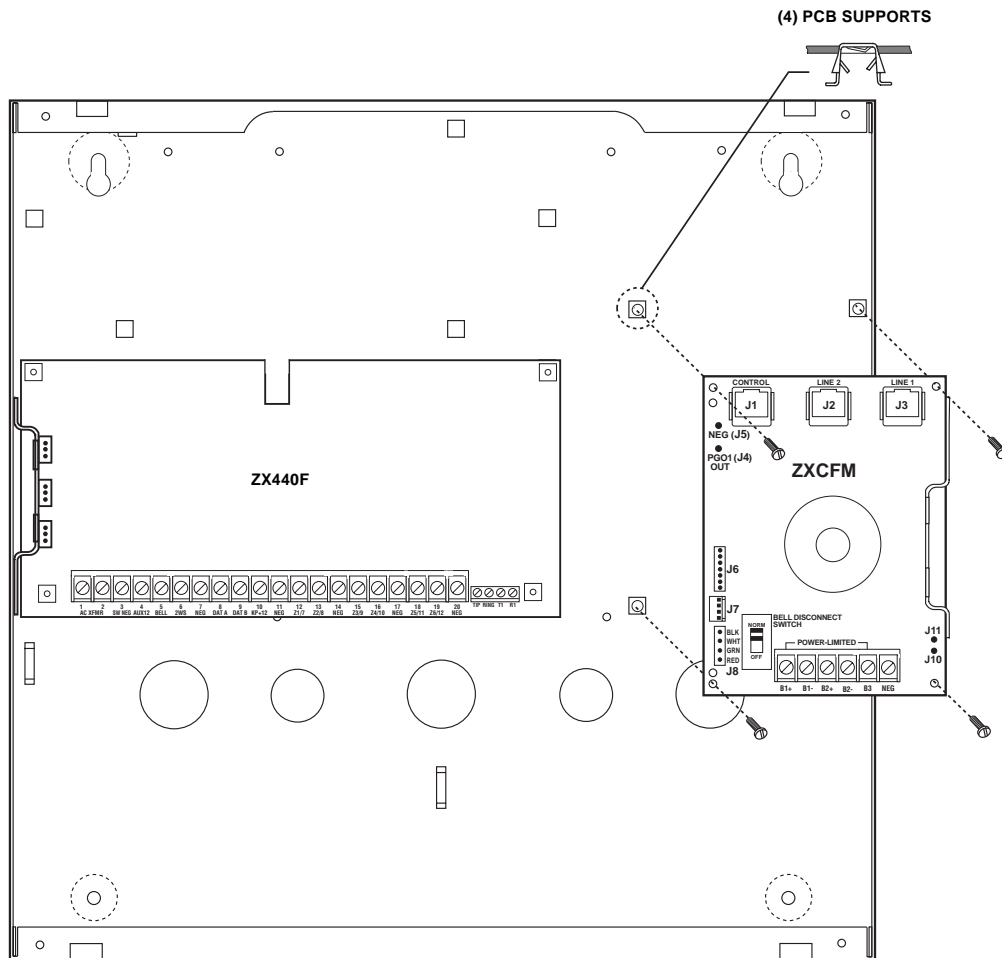

FIGURE 18 Installing the ZXCFM Fire Module to the ZX410 enclosure
3. Locate the (4) ZXCFCM PCB Supports in the hardware pack.
4. Press the supports into the enclosure, either from the rear or from the front of the enclosure, in the four square embossed holes (see Figure 18). The snaps may be pressed into the holes from the rear of the enclosure or installed from the front by compressing the snap before insertion into the hold.
6. Secure the ZXCFCM to the enclosure using four (4) #6-32 x 3/8" machine screws provided. Secure the ZXCFCM heat sink to the side of the enclosure using two (2) #6 x 1/4" hex heat sink screws provided.